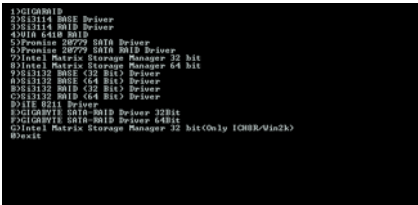
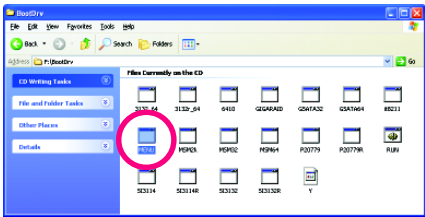

Figure 2
Figure 3
Step 2: When the controller menu (Figure 2) appears, remove the startup disk and insert the blank formatted disk. Select the controller driver by pressing the corresponding letter from the menu. For example, from the menu in Figure 2:
(Note) For users without a startup disk: Use an alternative system and insert the motherboard driver disk. From your optical drive folder, double click the **MENU.exe** file in the **BootDrv** folder (Figure 3). A command prompt window will open similar to that in Figure 2.